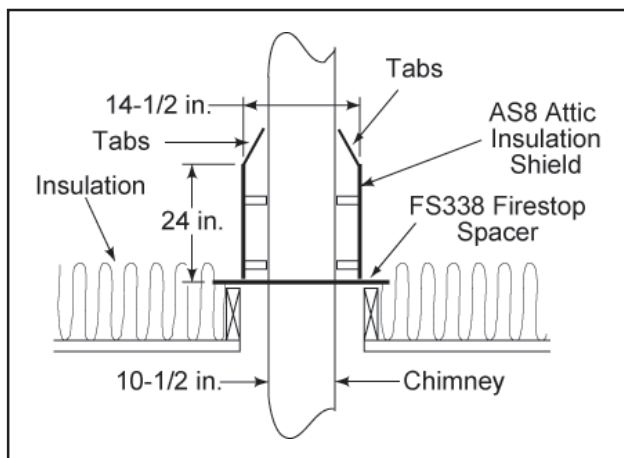

Figure 12 - Installing an Attic Insulation Shield
- c. Slide the shield down until it rests on the firestop spacer. The firestop spacer will support the insulation shield. See Figure 12.